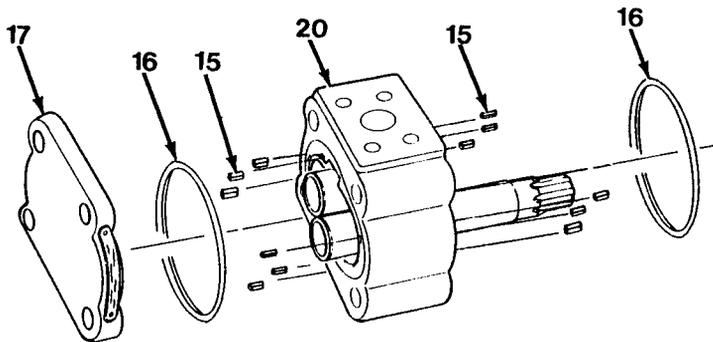

Figure 16-9
8. Install six pocket seals (15) and gasket seal (16) in gear housing (20, Figure 16-9).
12. Install remaining six pocket seals (15) and gasket seal (16) in gear housing (20, Figure 16-9).